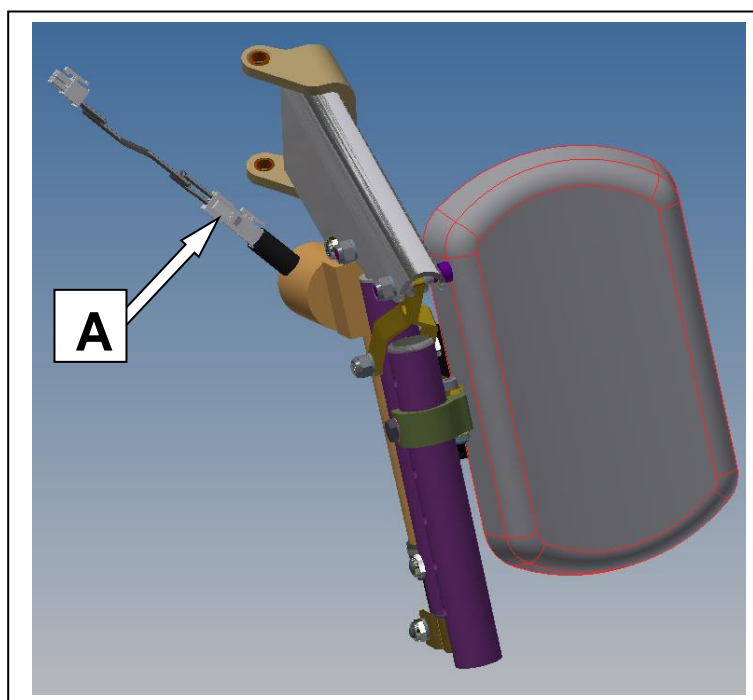

Figure 31-A: Motorized elevating leg support.
- 2- When replacing the leg support, make sure to reconnect the power connector (**A**) (see Figure 31-A).